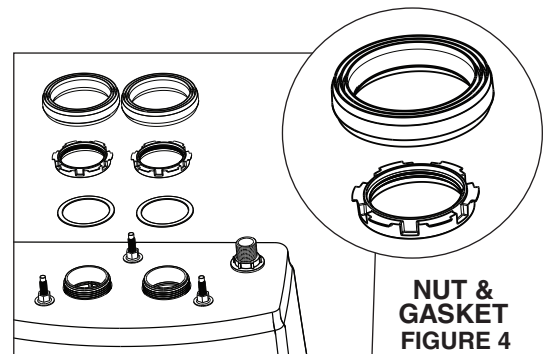

FIGURE 3
- Place friction washer over threads on the bottom of the tank **FIGURE 3**